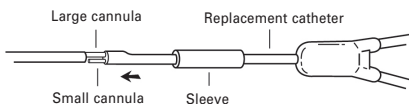

Fig. 3
3. The replacement catheter end has preloaded small (short end) and large (long end) metal cannulae. Slide the large metal cannula slightly into the large lumen of the catheter. (Fig. 3)